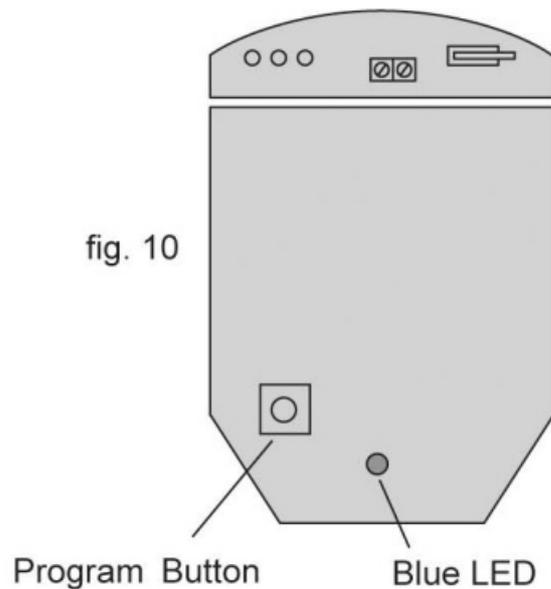

fig. 10
- The user can individually program a number of configurable settings as illustrated in the programming chart. Factory settings are shown as shaded boxes. Changes to the existing settings can easily be made. To reset the factory settings simply remove power from the detector, press and hold the program button (fig. 10) while temporarily applying power to the detector either before installation , with a 9-Volt battery, or by applying 12 Volts to the unit on site.
1. Press the program button as shown in fig. 10 for the number of the Option to be changed i.e. once for range, twice for pulse count, three times for LED.